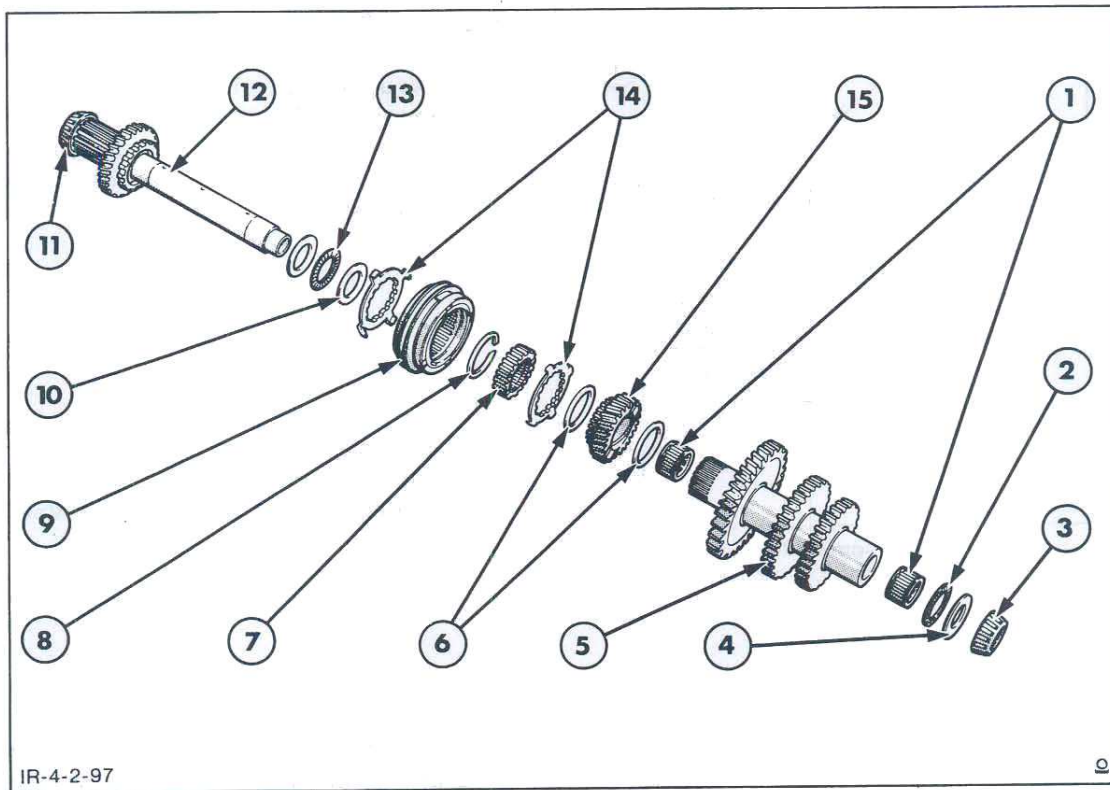

Figure 98
2. Remove the gear cluster and 1st/2nd synchroniser from the shaft together with the needle roller bearings, thrust bearings and thrust washers, Figure 98.
5. Normally, the countershaft rear bearing, Figure 98, need not be removed, however, if the bearing is worn or damaged it can be removed with a punch and hammer. If the bearing is removed, a new one must be installed as the cage will be damaged during removal.
1. Thoroughly clean the countershaft components, Figure 98, with suitable solvent, then blow dry with compressed air. Do not spin the bearings with compressed air.
With reference to Figure 98.